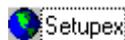

Figure 4: Setupex icon. Double-click on this after installation, if the host is an NT, 2000, or XP machine.
2. If you are installing and running SeisOpt ReMi on a Windows NT, 2000, or XP machine you need to log in as the **local administrator** and run **setupex**. Find the ‘setupex’ file in the installation directory (globe icon show in Figure 4). Run ‘setupex’ by double clicking the globe icon from a Windows-explorer window.